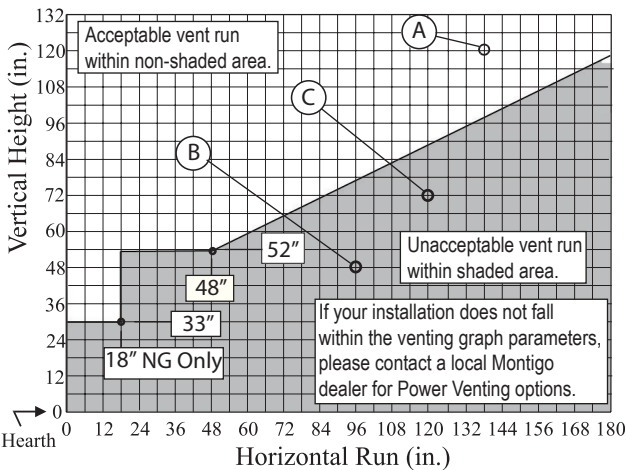

Figure 15. Rear Vent Venting Graph for wall mounted terminations.
- Venting runs *must* fall within the limits set by the venting graphs, see Figure 15.
Measure the vertical height from the fireplace hearth to the centre of the termination and the horizontal run from the fireplace flue collar to the wall flange of the termination. Plot on the Venting Graph Figure 15 with an 'X'.
Figure 15a. Straight run, Rear Vented, wall mounted termination for H*42DF*, Figure 15. N.G. (Natural Gas) equipped fireplaces ONLY. For Propane fireplaces, see figure 15b below.
Figure 15b. Rear Vented, wall mounted Multi-elbow termination installation. Installation for H*42DF* must have a minimum vertical rise of 52". The vent run must comply with the Venting Graph for Rear vent, wall mounted terminations, Figure 15.